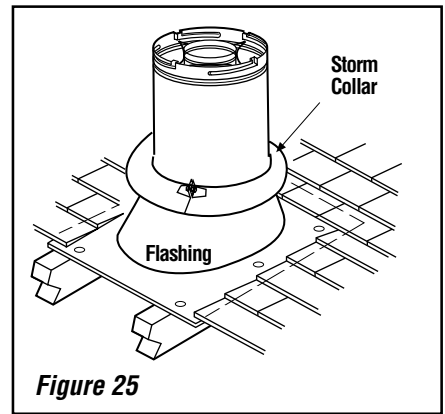

Figure 25
I. Install the roof flashing - Extend the vent sections through the roof structure. Install the roof flashing over the vent section and position such that the vent column rises vertically (use carpenter's level - see Figure 25). Nail along perimeter to secure flashing or adjust roofing to overlap the flashing edges at top and sides only and trim where necessary. Seal the top and both sides of the flashing with waterproof caulking.
J. Install the storm collar - Install the storm collar, supplied with the flashing, over the vent / flashing joint. See Figure 25. Loosen the storm collar screw. Slide collar down until it meets the top of the flashing. Tighten the adjusting screw. Apply non-combustible caulking or mastic around the circumference of the joint to provide a water tight seal.